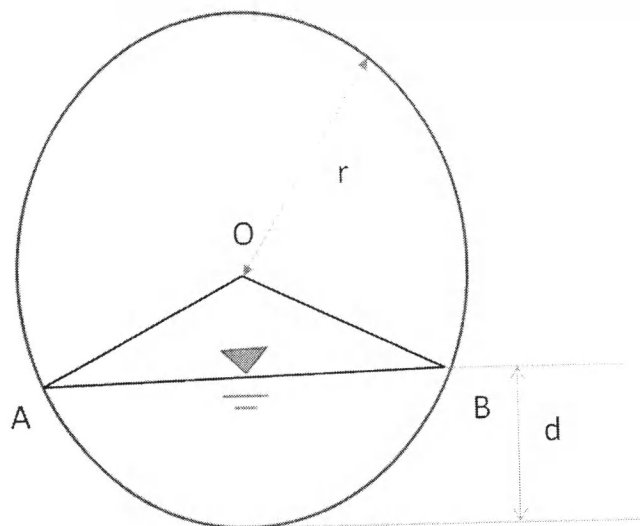

Fig. 1 : Schematic diagram of a cross-section of a sewer partially full
10. Answer the following question with a reference to Fig. 1, where $\angle AOB = \phi$, d = water depth, r = radius of the pipe